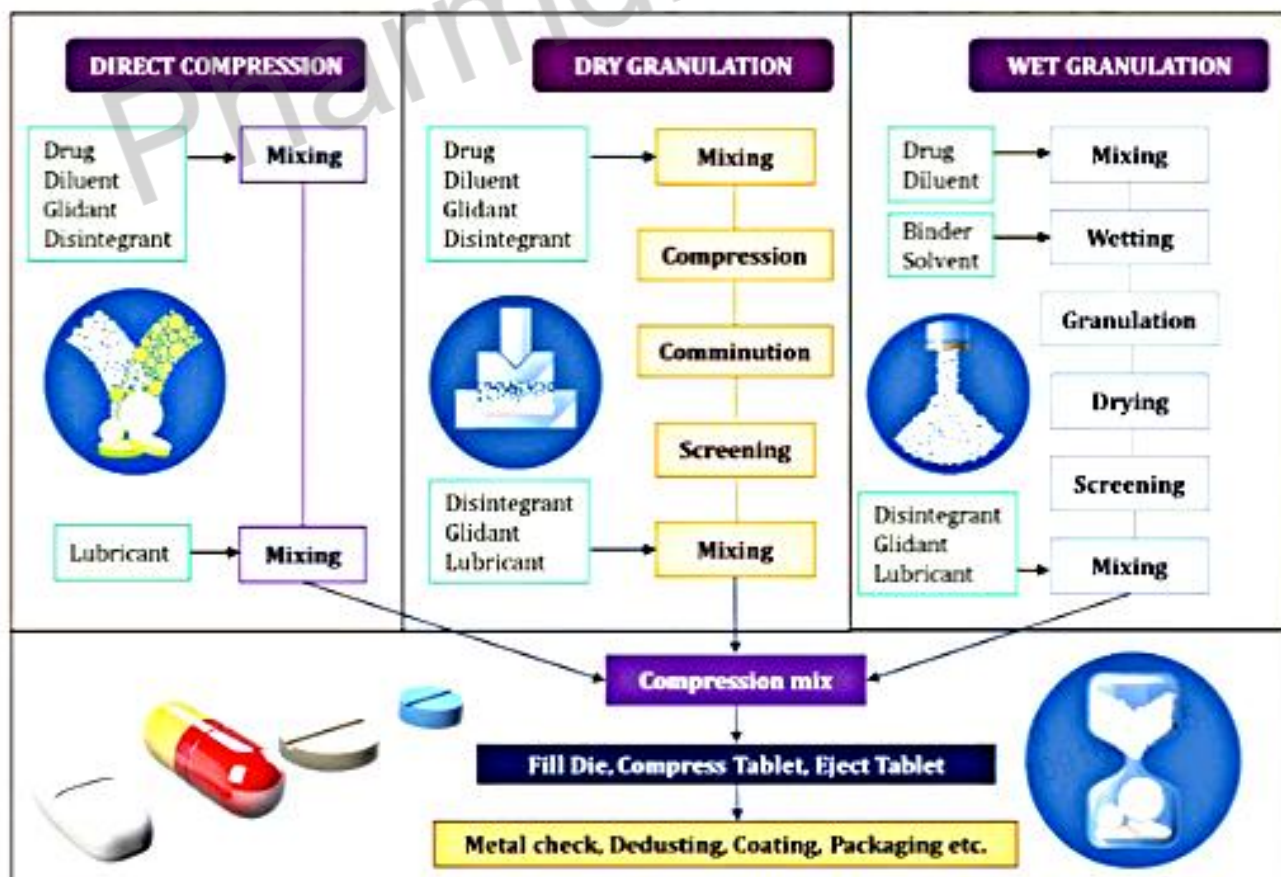

Fig 5.2: Methods of Granulation
- (iii) Wet Compression as given in fig 5.2